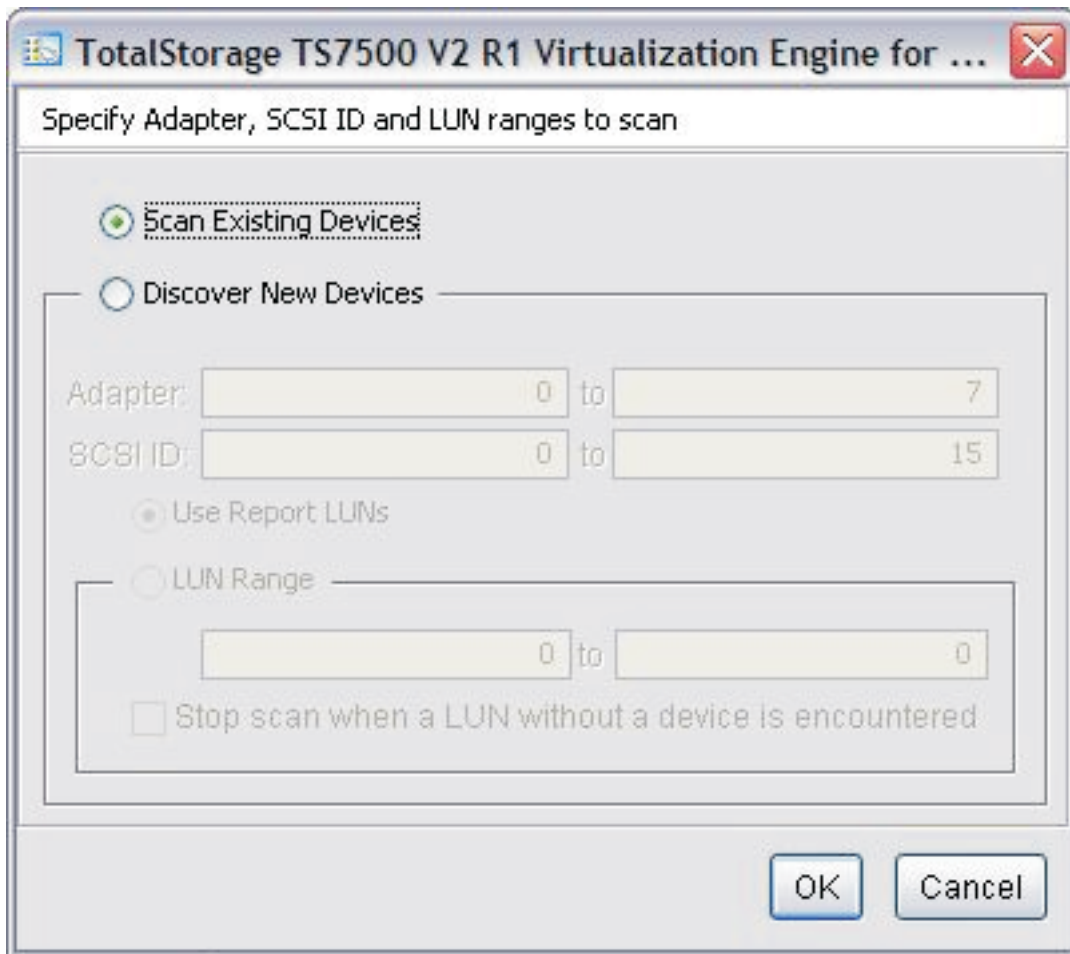

Figure 69. Rescanning physical devices
14. ___ In the VE console (Figure 69):